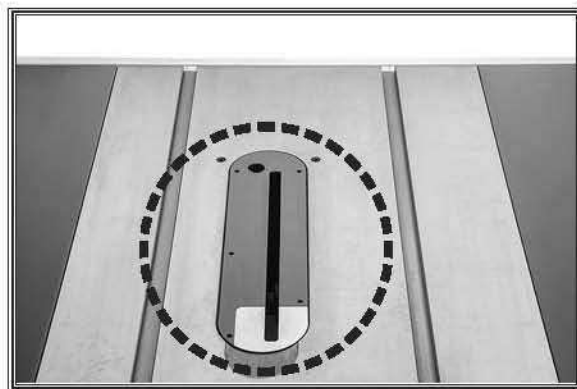

Figure 27. Standard table insert installed.
17. Install table insert in table opening (see **Figure 27**). Check to make sure it is flush and adjust if necessary (see **Table/Dado Insert Adjustment** on **Page 75** for more information).